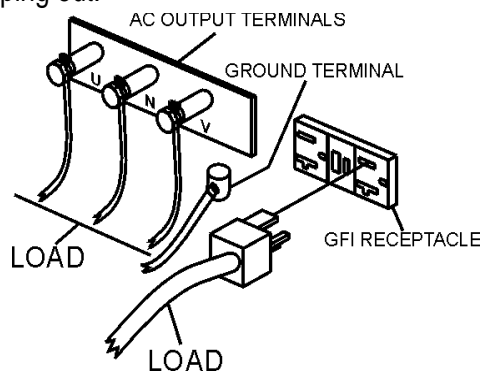

Figure 43. UVW Terminal Lugs (Load)
2. Connect the load to the UVW terminals as shown in Figure 43. These terminals can be found on the output terminal panel, see page 35 Figure 15. To gain access to the output terminals lift the UVW cover. Make sure to tighten terminal nuts securely to prevent load wires from slipping out.